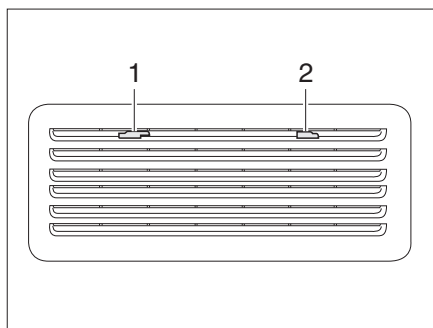
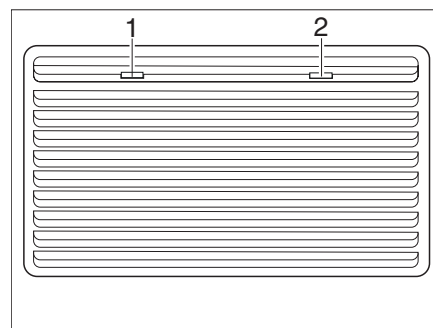

Fig. 143 Refrigerator ventilation grill (Thetford small)
Fig. 144 Refrigerator ventilation grill (Thetford large)
- Slide the locking devices (Bild 143,1 and 2 or Bild 144,1 and 2) to the middle.